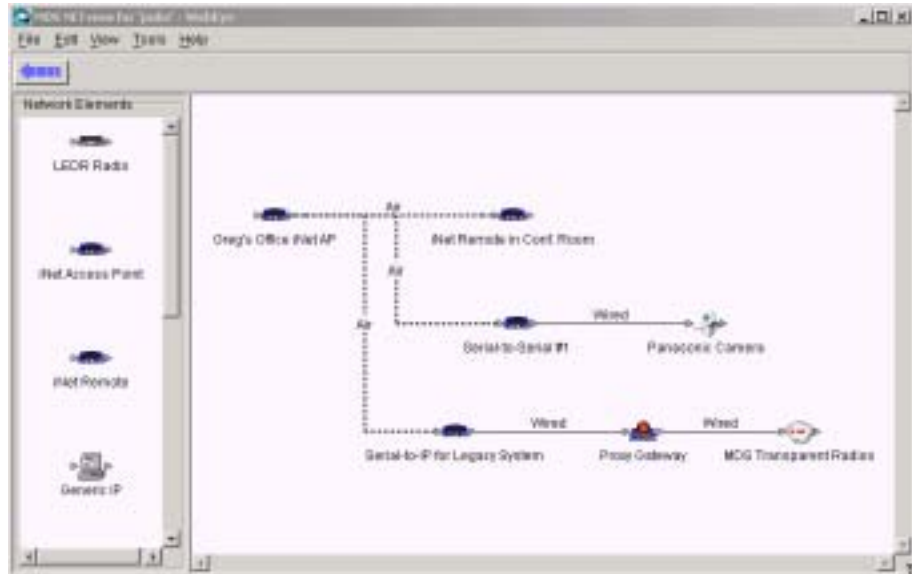

Figure 17. Example of a Completed Network Map
- f. Arrange the network elements as desired and connect the units together using the dashed line icon for over-the-air links or the solid line icon for hardwired links. Figure 17 shows an example of a completed network map.